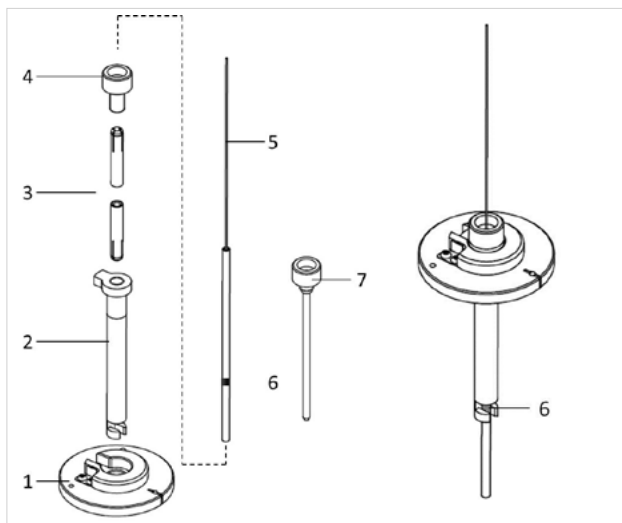

Figure 1 Assembly of the sample holder universal with capillaries
2. Select the corresponding colored sleeves (Fig. 1/3) to match the color of the capillary of choice (Fig.1/6).
3. The capillary should hold the sample and the appropriate plunger (Fig. 1/5). The plungers that fit into capillary size 2–4 have to be used with the corresponding Teflon tips that are already assembled onto the plungers. Note that in addition 10x Teflon tips of each as well as matching Teflon tip tools are provided in the Chamber & Sample Holder Starter Kit Lightsheet Z.1 (Tab. 1). The Teflon tips can be assembled as a replacement onto the matching tip-less plungers.
4. The sleeves are tube-shaped with four slits at one end. Insert the sleeves into the sample holder stem (Fig. 1/2,3) so that the two slit endings point outwards and the non-slit endings are next to each other in the center.
5. Take the clamp screw (Fig. 1/4) and position it onto the sample stem holder turning clockwise three times (360° each turn) which will not fix the screw.
7. Push the capillary within the holder stem through the holder until the color-coded capillary marking just becomes visible (Fig. 1/6 right hand side). It is better to pull the glass capillary as it becomes visible than push the plunger and risk moving the sample. Having the color marker at the edge of the metal is the recommended -position for later imaging. However, if there is more space needed in between the sample chamber and the sample holder positioning stage it can be useful to push the capillary through further. In these cases, carefully test if the capillary still can be placed tightly within the sample holder.
8. Tighten the clamp screw tight and check that the capillary is held by pulling it lightly before turning the holder back to the vertical position. Take the sample holder disc (Fig. 1 / 1) with the protruding side with positioning notch facing you. Carefully position the sample holder stem with specimen into the sample disc holder until the ball bearing click-position is felt.
13. Unscrew the clamp screw completely and remove the plastic color coded sleeves by using the locking rod as an ejection tool by poking it through the non-screw end of the holder (Fig. 1 / 7).